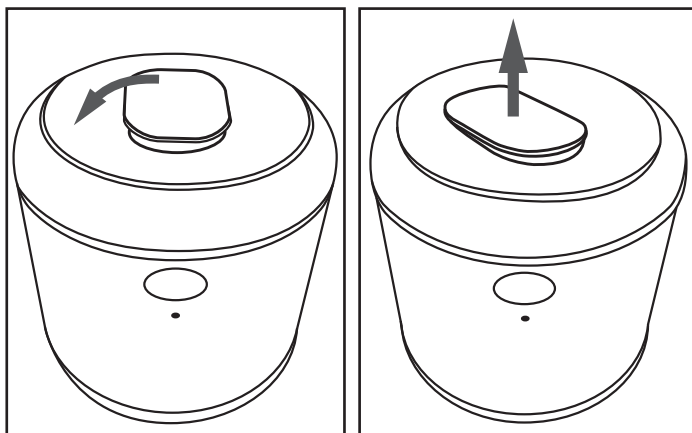

Fig. 2
- 4) Open the filler opening cap **10** by turning it slightly anticlockwise and removing it (see Fig. 2):